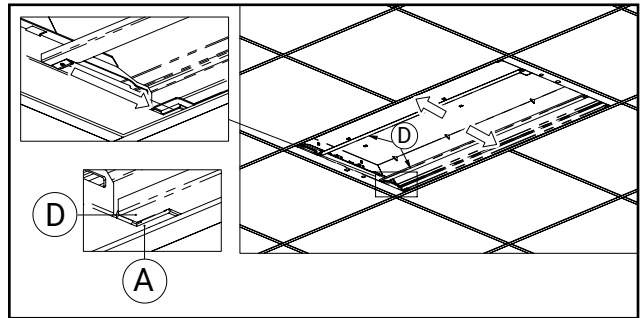

Figure 7.
7. Install Trim Rails (D) in between troffer and T-grid, making sure the tab at each corner of each trim rail slides into the respective slot on each Anchor Rail (Fig. 7).